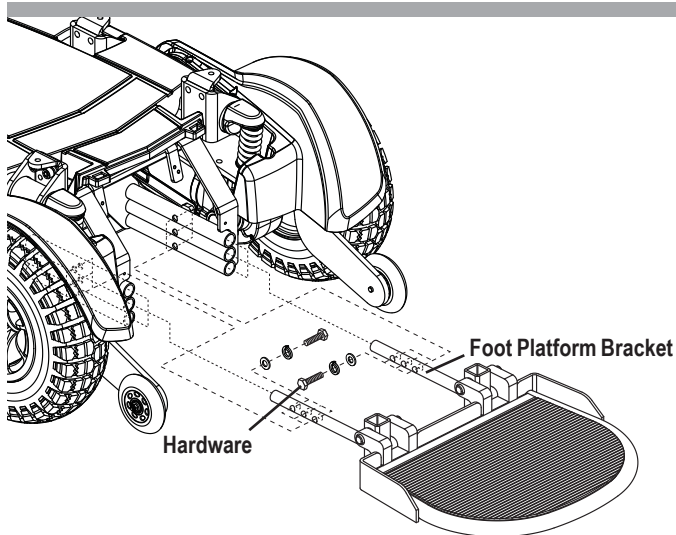

Figure 12. Foot Platform Adjustment
1. Remove the hardware from the foot platform bracket. **See figure 12.**